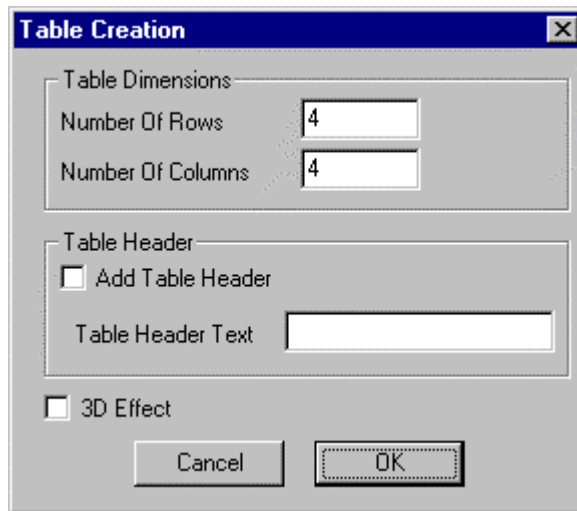

Figure 13.4 – Table Creation
4. The Table Creation windows open (Fig 13.4)